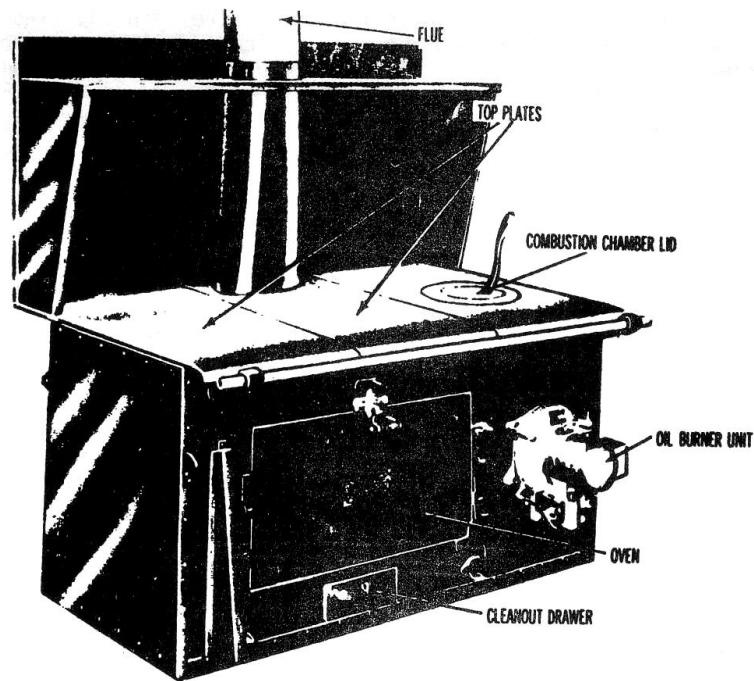

Figure 10. Heavy-duty oil range with hot top.
(1) Before operation. The operator should see that the range is properly installed and that all switches are working. He should also make sure that the cooking top plates, grease or spill over trays, and oven are clean.
(2) During operation. The operator should be alert for smoke or odor that would indicate shorted electrical wiring. He should watch for anything unusual in the operation of top or oven temperature controls or signal lights. In addition, the operator should clean the top as needed, wiping up any spillovers and grease before they burn on the metal. Scrape the fry top as necessary for maximum cooking efficiency.
(3) After operation. The operator should first make sure that all controls are turned off. When the range has cooled, all surfaces except the top should be washed with detergent solution. Grease and heavy carbon should be carefully scraped from the top. Oil should not be used on the plates unless absolutely necessary; if it is necessary, a grillstone and a small amount of mineral oil can be used to remove any remaining carbon. Salad oil should never be used for this purpose. The top plates of electric ranges must be cleaned in place, and no attempt should be made to remove them. After the top plates are cleaned and all the other range surfaces are washed, all surfaces should be wiped with a clean, dry cloth. The grease tray should be removed, emptied, washed in hot detergent solution, rinsed, dried, and replaced in the range. Lubricate the hinges of the oven door monthly with a light lubricating oil.
12. **HEAVY-DUTY OIL RANGE.** The heavy-duty oil range (fig. 10) may have a fry top, a hot top, or a combination fry- and hot-top. The range has an oil burner, located on either the right or left of a single oven, or between two ovens -this depends on the model of the oven. The burner fires into a combustion chamber lined with firebrick. Heat radiates to the